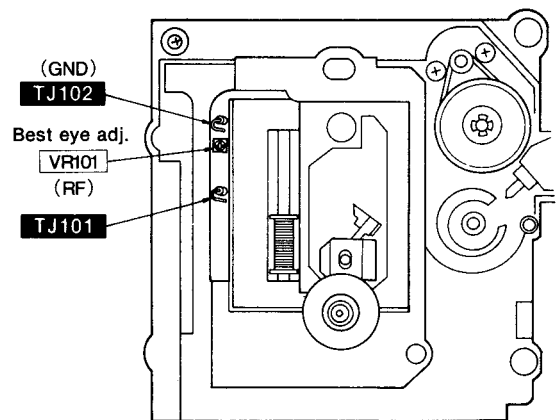

Fig. 3
3. Adjust **VR101** until the vertical fluctuation of RF signal is minimized and the eye pattern is most stretched. (Refer to Fig. 3)
(4) CHECK OF PLAY OPERATION AFTER ADJUSTMENT